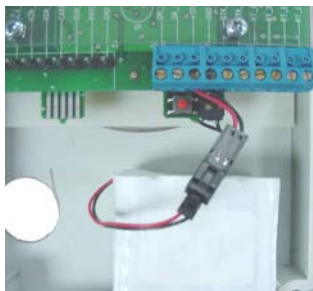

Figure 2-6 – Battery Pack Installed
Although the Transceiver Control Module is shipped with a Battery Pack installed and connected (Figure 2-6), this section details how to install and connect a Battery Pack.
2.4.3.3 Connect the Battery Pack Connector to its mating connector that is factory installed on J4 (Figure 2-6).